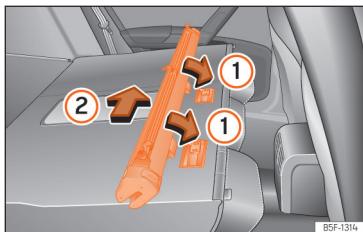

Fig. 186 Assembling the net partition in the rear seat backrests.
- Place the net casing in the rail slots in the direction of the arrows >>> Fig. 186 ①.
- Push the casing towards the left side of the vehicle in the direction of arrow >>> Fig. 186 ② and as far as it will go.
- Pull the net casing out approximately 5 cm in the opposite direction to the arrow >>> Fig. 186 ②.
- Remove the casing from the rails by pulling in the opposite direction to the arrows >>> Fig. 186 ①.